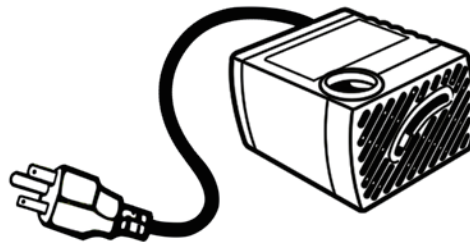

Fig. 2
4. If the pump runs with low or high water circulation. Check and adjust the regulator dial or slide on the front of the pump. Adjust the dial/slide towards (+) to increase water flow or towards (-) to decrease water flow. (Fig. 2)